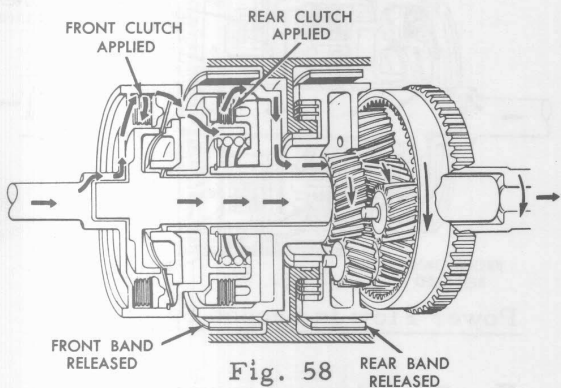

Fig. 58
- ⊗ In third speed, the primary and secondary sun gears are locked together and driven as one unit (Fig. 58). The pinions therefore, cannot rotate and the entire planetary gear train revolves as a unit. This causes the output shaft to turn at the same speed as the turbine shaft.